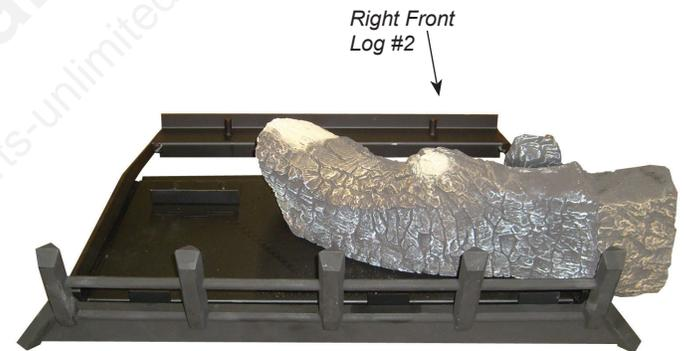

Figure 32.
- Place front right log (#2) on right pin located on burner and right grate bar. Figure 32 After placing front right log, ensure log is fully upright and tilting towards the back of the burner.